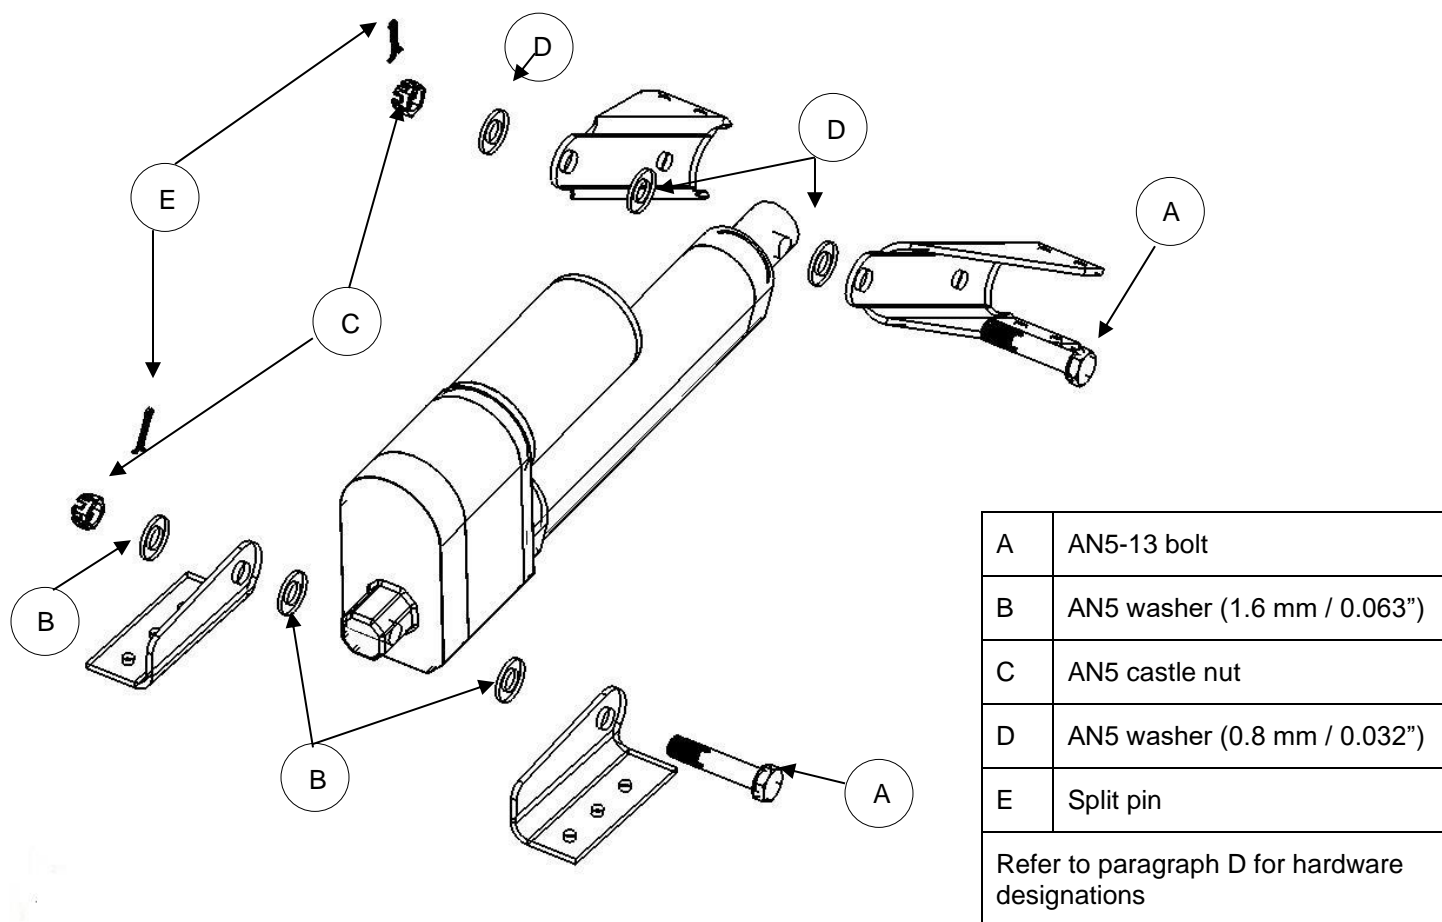

Figure 24: Flap actuator motor installation.
- Observe correct placement of washers (refer to Figure 24).